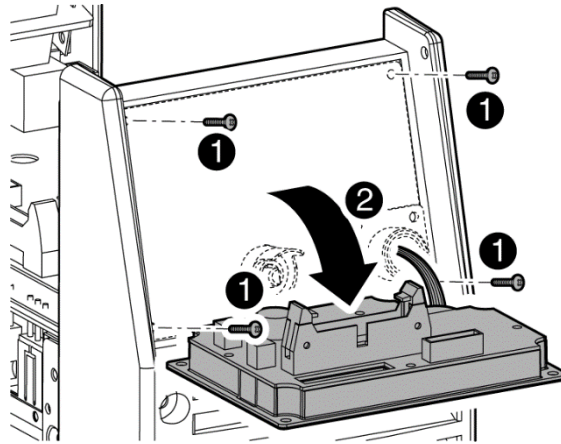

Figure 7-2 VRD Enable/Disable Step B
- B) Remove the front control cover assembly from the front panel (see Figure 7-2).
- Access the VRD control by gently prying back the front panel controls to reveal the VRD enable/disable potentiometer (see Figure 7-2).